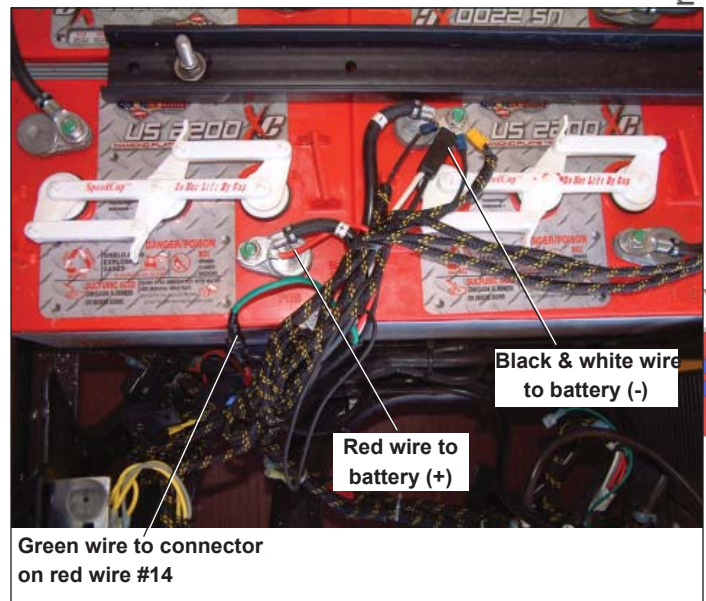

Figure 9-12. Battery Wires
3. Install charger output electrical leads as follows; black and white to battery B-, red wire to battery B+, green wire to red wire #14 from interlock harness. See Figure 9-12. Plug in cord from power inlet to charger pigtail. Tape the two plugs together so they cannot accidentally separate.